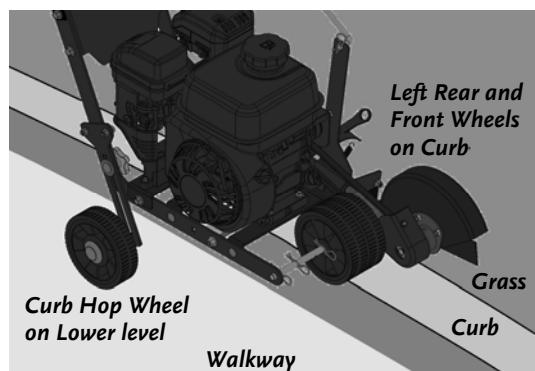

Figure 17
3. Position the machine on the Curb with the left side rear Wheel and both front Wheels on the Curb (*Figure 17*).
6. Position the Edger as shown for Curb edging (*Figure 17*).